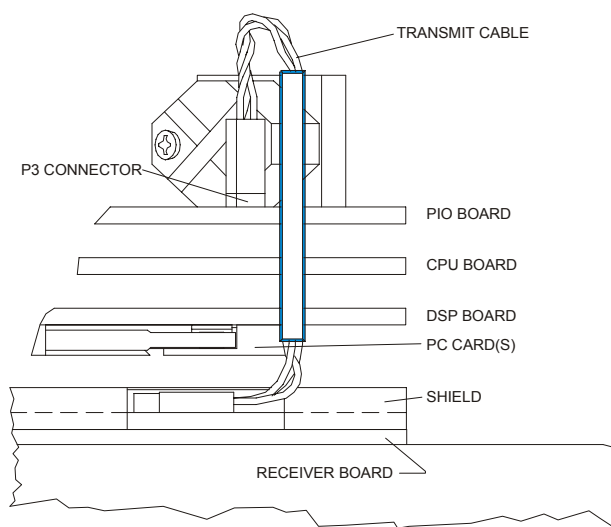

Figure 2. Transmit Cable
- b. Note the orientation of the transmit cable connector as it is plugged into the PIO board and to the Receiver board (see Figure 2, page 5).